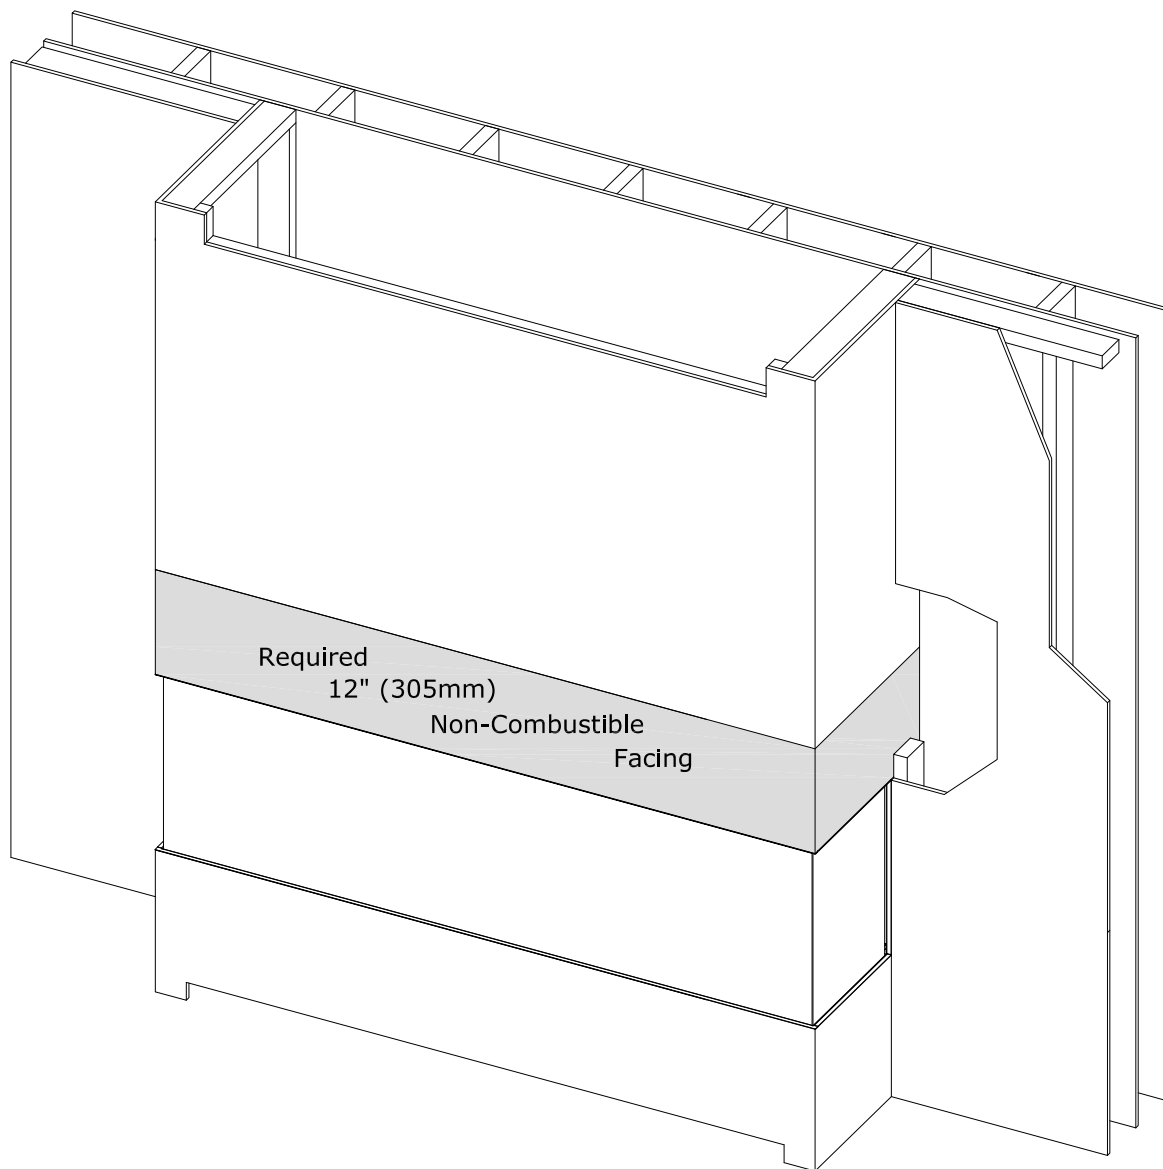

Figure 3.3 - Recessed Framing Installation
- Figure 3.3 shows how to face the fireplace chamber when installing the fireplace in a recessed application. You are required to first face the fireplace chamber then build the walls off to the sides.